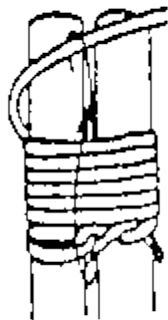

Figure 2
3. *Wrap* the rope up over the horizontal pole, then across behind the vertical pole, pulling tight all the time (figure 2).
4. Next bring the rope down over the horizontal pole then across behind the vertical pole. This finishes one complete *wrap* (figure 2). Continue *wrapping* in the same way making sure your rope sits on the outside of the previous *wrap*. The *wraps* should not overlap so the rope won't slip and loosen the lashing. All *wraps* should be neat, even, and tight.
3. Continue with 4-6 *turns* over and under the poles not too tightly; in a figure of eight pattern. (figure 2 & 3)
- Next make 3-4 *turns*, this time over the center hitch (figure 2).
3. Continue with 6-8 *turns* which are made firmly, but not too tight (figure 2).